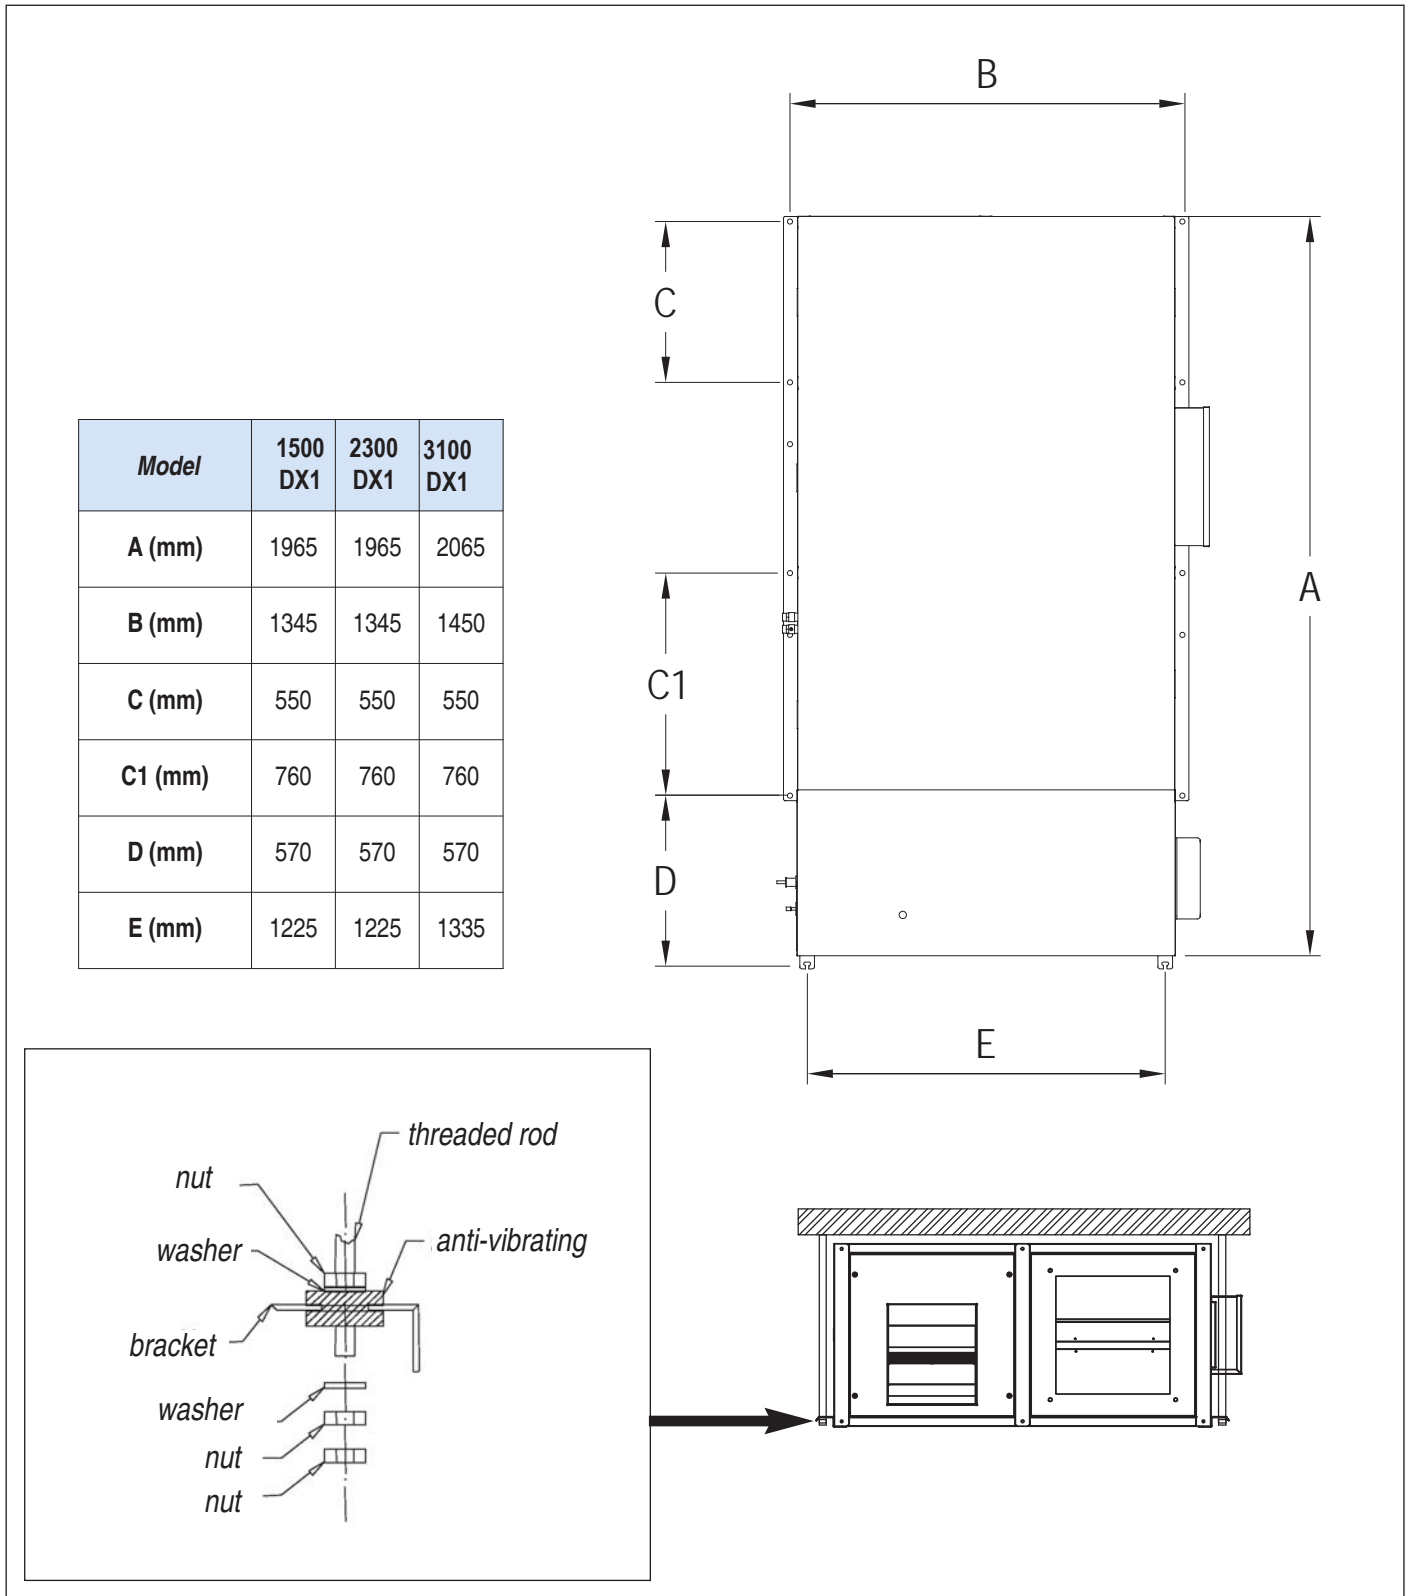

fig. 6
2. Position the unit on the tie-rods with the rubber antivibrating supplied (fig. 6).